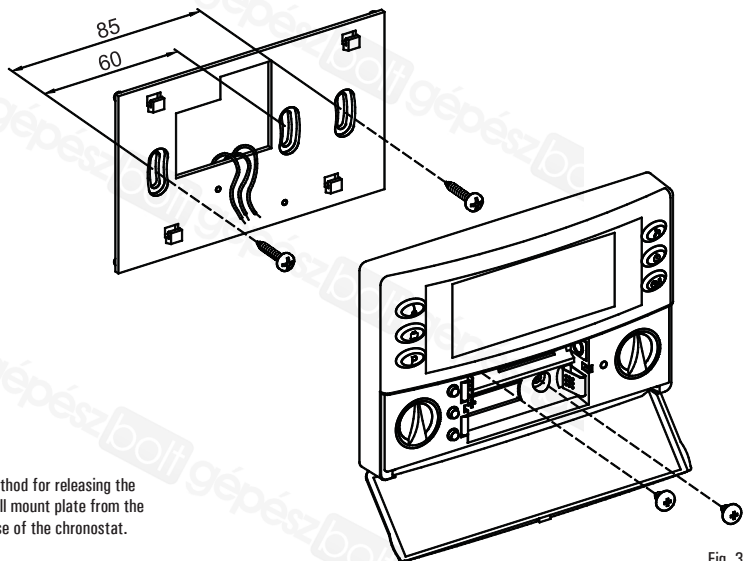

Fig. 3
boxes by means of the two holes for screws (distance between centres: 60 mm or 85mm), taking care to pass the wires through the opening as shown in Fig. 3.
5. Fit the chronostat onto the wall mount plate, first matching up the teeth on the base with the holes provided on the plate and then pressing downward on the device until the plastic teeth of the plate click into place; then fix the chronostat body to the wall mount plate through the two screws supplied which must be mounted in the battery holder (Fig. 3).